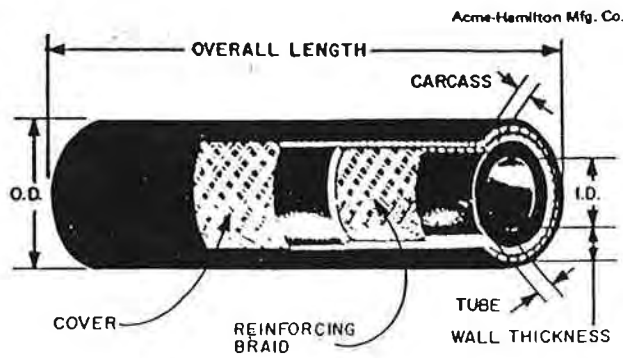
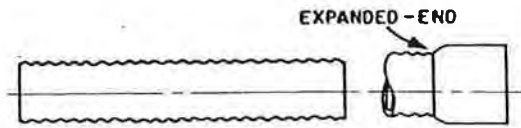
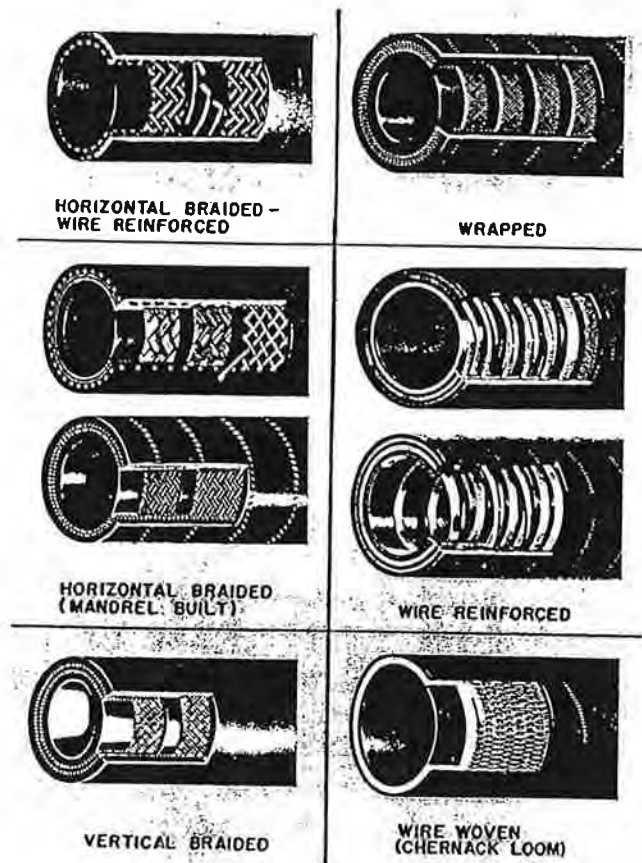

Fig. 5-1. Common hose terminology.
Fig. 5-2. Expanded-end hose.
Fig. 5-5. Typical construction of reinforced non-metallic hose.
5.07 Figure 5-1 is a cutaway view of a rugged, high-pressure air hose for air drills and other pneumatic tools used in contracting, mining, and heavy industrial service. The hose is a reinforced nonmetallic type, which is the most common type in general use. Many of the terms given are already familiar to you. I.D., which is the hose size, refers to the inside diameter throughout the length of the hose body, unless the hose has enlarged ends. If the ends are enlarged, as if Figure 5-2, the letters E.E. are used (meaning either ENLARGED END or EXPANDED END). As in an automobile engine, some hoses have enlarged ends to tightly fit a fixed end of piping. The O.D. is the diameter of the outside wall of the hose.
5.08 The TUBE is the inner section or core of the hose, through which the fluid flows. REINFORCEMENT is the material put over the tube to provide resistance to pressure — either from the inside or outside. The hose in Fig. 5-1 has two layers of high-strength synthetic cord reinforcement called BRAID. In this case the hose is called MANDREL BRAIDED, because a mandrel (the spindle or core) is inserted into the tube before the reinforcing layers are put on. The mandrel provides a firm foundation over which the cords are tightly and evenly braided. The COVER of the hose is an outer, protective covering. The hose shown in Fig. 5-1 has a cover of tough, abrasion-resistant neoprene.
5.18 But most hoses are not made from a single material. Different materials form layers in the hose, reinforcing it in various ways for strength and resistance to pressure. Hoses used today usually have a tube (made of some form of rubber) or a lining (such as plastic) surrounded by a carcass and cover, as you saw in Fig. 5-1. The carcass is usually braided. The type of braiding used is determined by the requirements of the application. Figure 5-5 shows the most common types of reinforced nonmetallic hose and the differences in their construction.